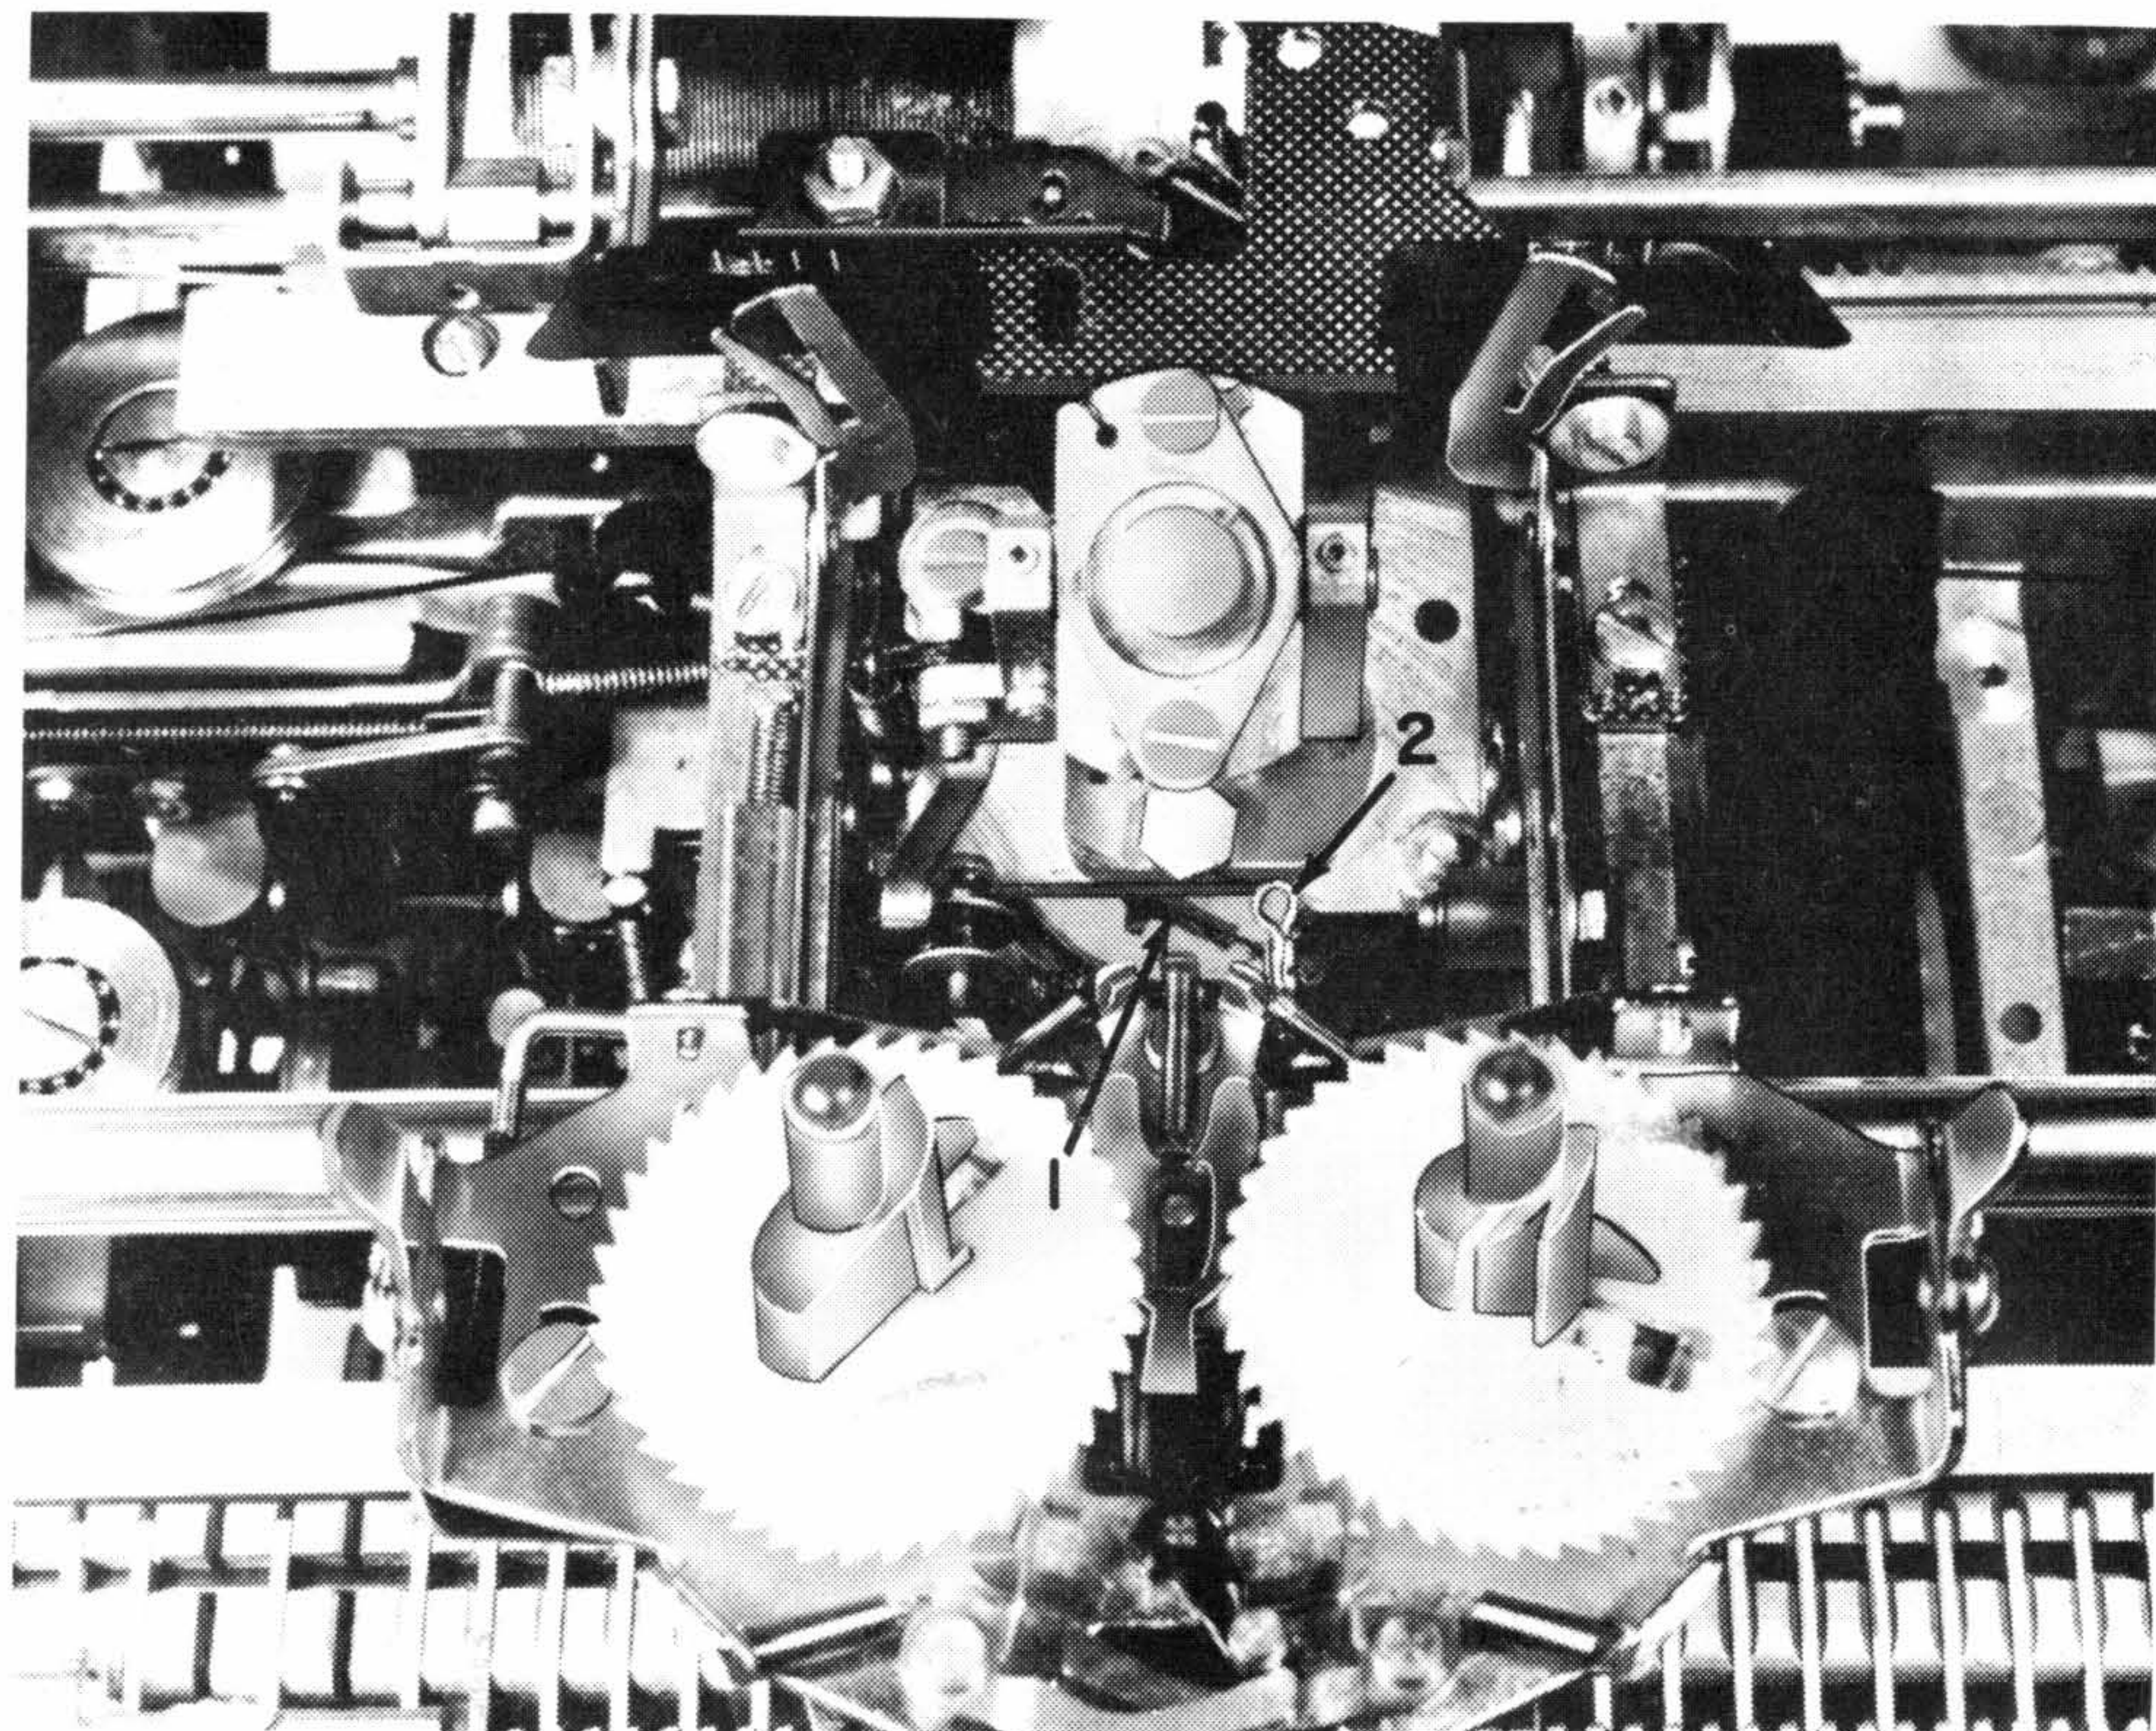

Figure 17. Rotate Tape Replacement
5. Pull the tilt ring toward the front of the machine and turn the rotate pulley until the T-slot is accessible (#1, Figure 17).
6. Insert the rotate tape, eyelet first (#2, Figure 17), between the rotate pulley and the right side of the yoke from beneath the ribbon mechanism.